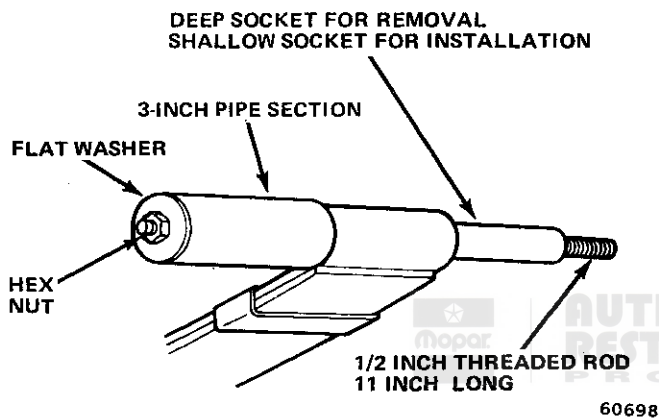

Fig. 2N-10 Bushing Replacement Tools—Large Bushing
(1) Insert 1/2 by 11 inch (1.27 by 27.9 cm) length of threaded rod halfway through bushing.
(2) Install suitable size deep socket on one end of rod with open end of socket toward bushing. Socket will serve as bushing driver.
(3) Install one flat washer and one hex nut on rod behind socket (fig. 2N-10).